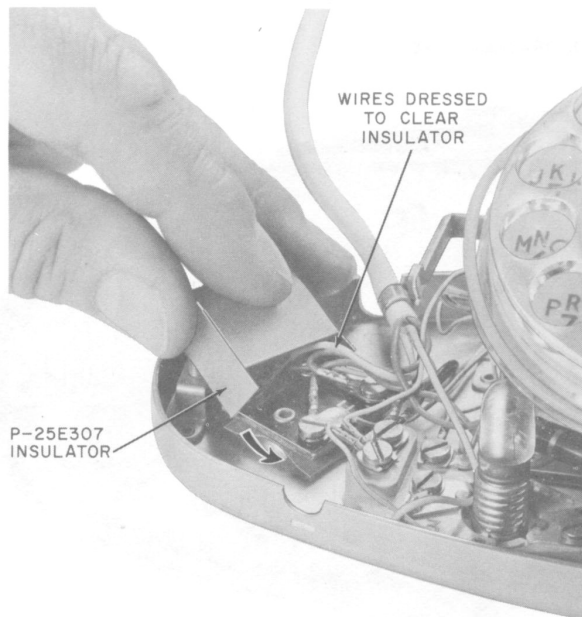

Fig. 8—Placing Insulator Over Terminal
- (1) Remove telephone set housing.
- (2) Dress all leads to prevent wiring from being caught between weight and base of set.
- (3) Install P-25E307 insulator as shown in Fig. 8.